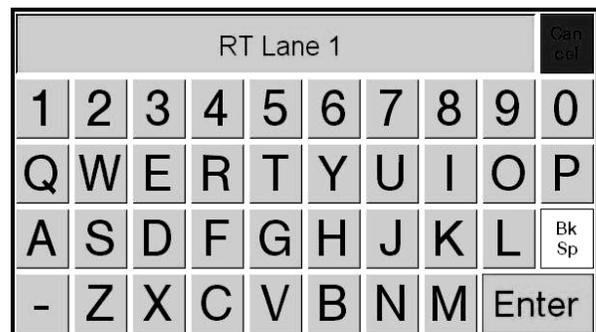

Figure 6.3 -- Alpha/Numeric Keypad
2. Each drive can be given a unique name to customize the HMI to the specific application and to make drive identification easier. Touching the green header in the upper left hand side where the name is displayed will pop up an alpha/numeric keypad (See Figure 6.3). Use the keypad to type in the desired name and press the **Enter** key. The pop up will disappear and the **“Drive Name”** window will be updated.